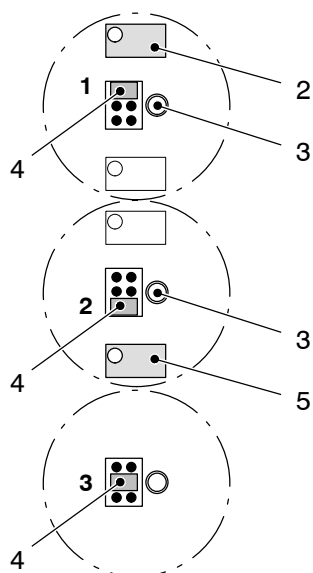

Fig. 7-18
CAUTION: When calibrating, keep hands or conducting tools away from coaxial connections (10, 11, Fig. 7-18) to prevent distortion of the signal.
- Operating voltage is applied (LED *Operating voltage* (1, Fig. 7-18) lit).
NOTE: The LED *Reference section* (9, Fig. 7-18) lights up as soon as the reference section (area between the lower inactive section and the sensor measuring range) is covered with material.